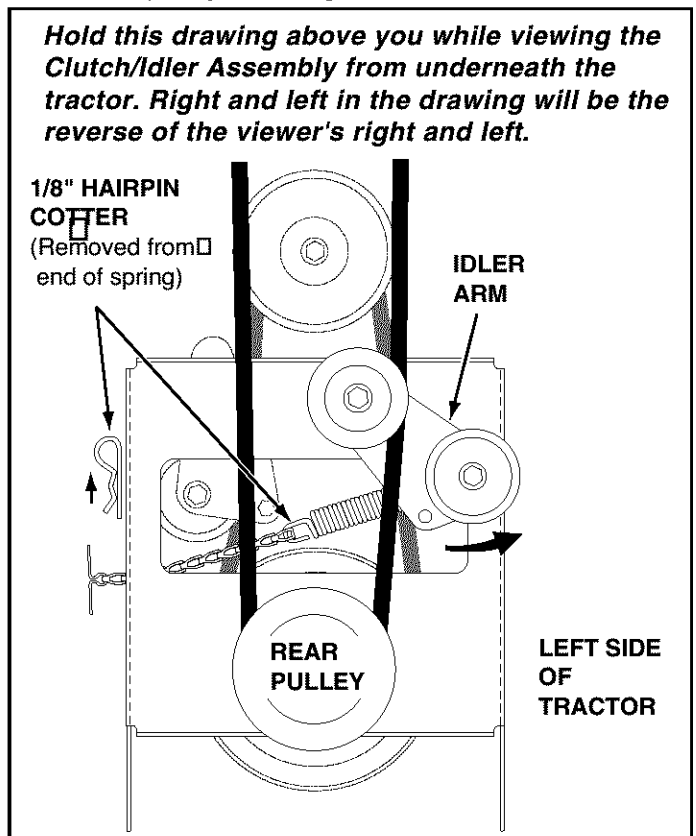

FIGURE 31
- Remove the 1/8" hairpin cotter that secures the end of the idler arm spring to the right side of the clutch idler assembly. Swing the idler arm to the left side. See figure 31.
- Place the auger belt around the rear pulley and between the two pulleys on the idler arm. The "V" side of the belt must be seated in the grooves of the "V" pulleys. See figure 31.